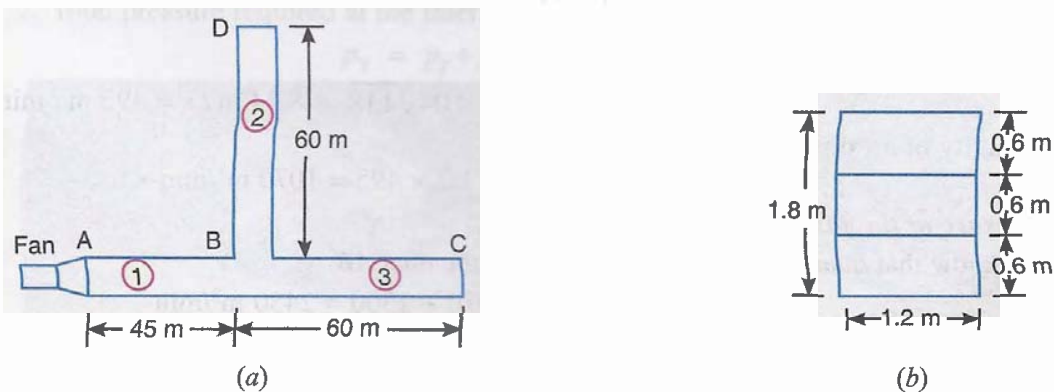

Fig. 20.9
**Example 20.7.** A ventilation duct 1.8 m by 1.2 m runs in a straight line for 45 m from the supply fan, then bifurcates into parts each 60 m long and each 1.8 m by 1.2 m, as shown in Fig. 20.9 (a). In order to reduce the air noise to a minimum, the branch BD is divided into three parts and lined with absorbent material of negligible thickness as shown in Fig. 20.9 (b). If the quantity of air discharged at C is 1360 m3/min, calculate the quantity of air discharged at D and the static pressure at the fan outlet. The friction factor 'f' is 0.0055 for sheet metal and 0.007 for the absorbent material.